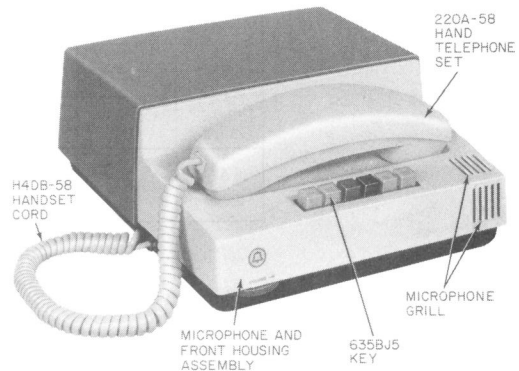

Fig. 1—73B Control Unit, Front View
2.01 The 50A1 conference set (Fig. 1) consists of a 73B control unit, a modified 220A-58 hand telephone set plus the other accessories listed in paragraph 2.03 under the Ordering Guide.